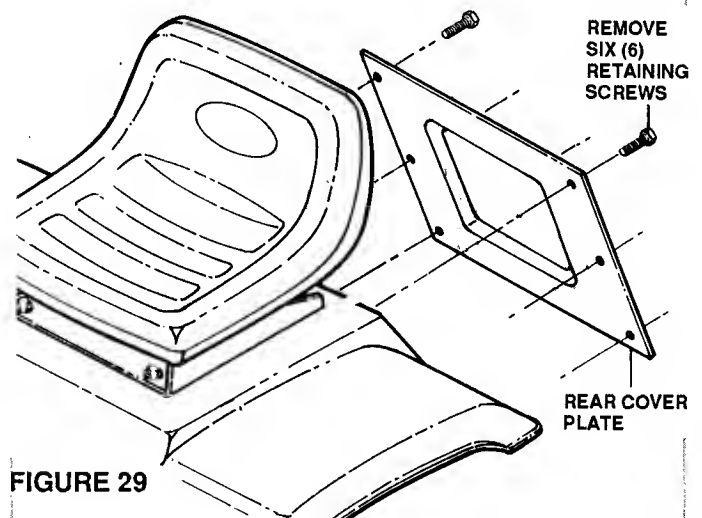

FIGURE 29
3. Remove REAR COVER PLATE. See Figure 29.